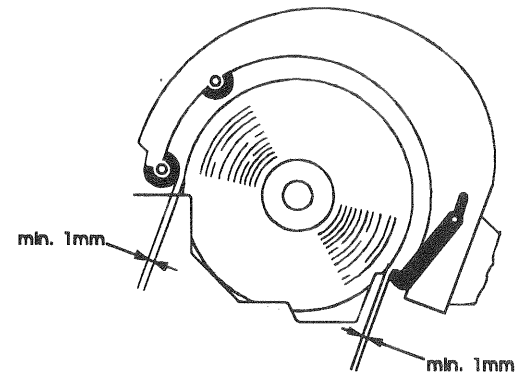

Fig. 28
- At all 4 positions the distance between the outside of the CD and the griper arm rollers should not be less than 1 mm (Fig. 28).